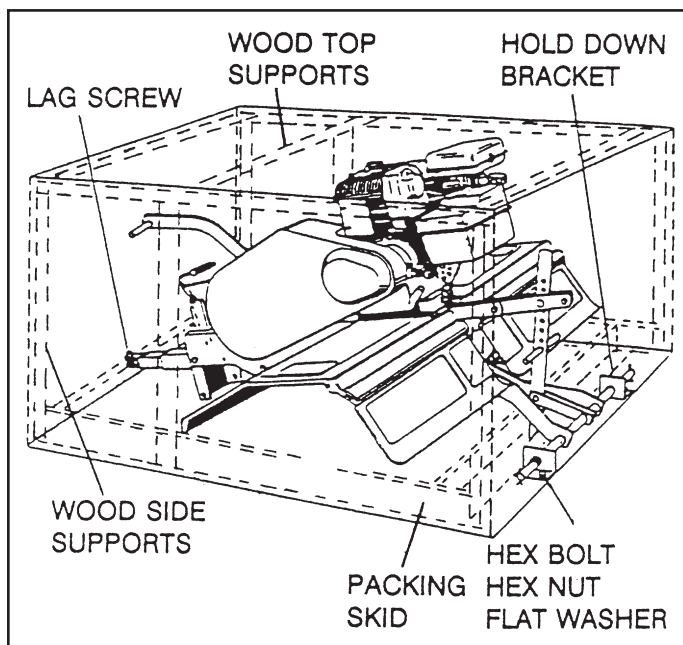

FIG. 1
- Cut from top to bottom all four corners of the carton and lay panels flat. (See Fig. 1)